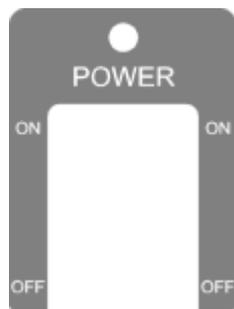

Fig. 3-4: Power label for LNA.
- Move the toggle switch on the handle of the supply and display unit into position "OFF" (downwards on the handle, see figure 3-4).
- Move the toggle switch on the handle of the supply and display unit into position "ON" (upper position, see figure 3-4). This is indicated by the green LED.